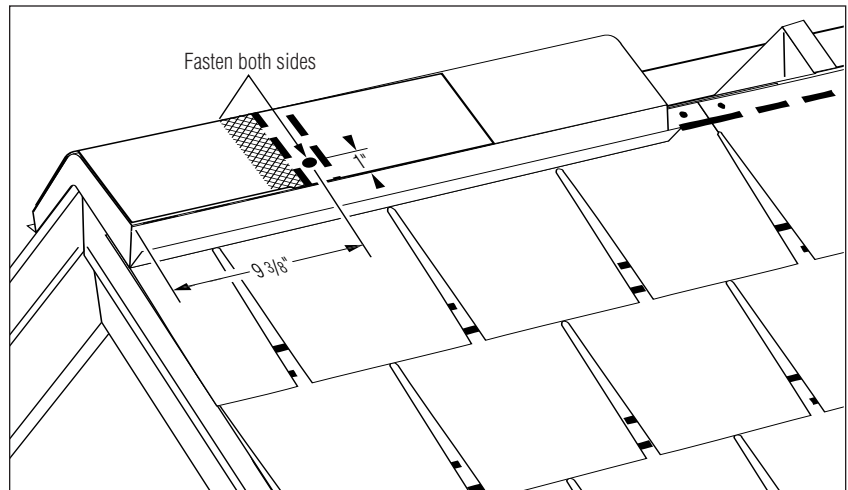

Figure 14-18: Ridge cap installation – First Course.
Then apply a full 18" x 12" (455 mm x 305 mm) piece over the starter, bending the shingle along its centerline and forming it into place over the hip or ridge, flush with the bottom and side edges of the starter shingle. Fasten with two (2) nails as shown in the fastening section. (See Figure 14-18 )